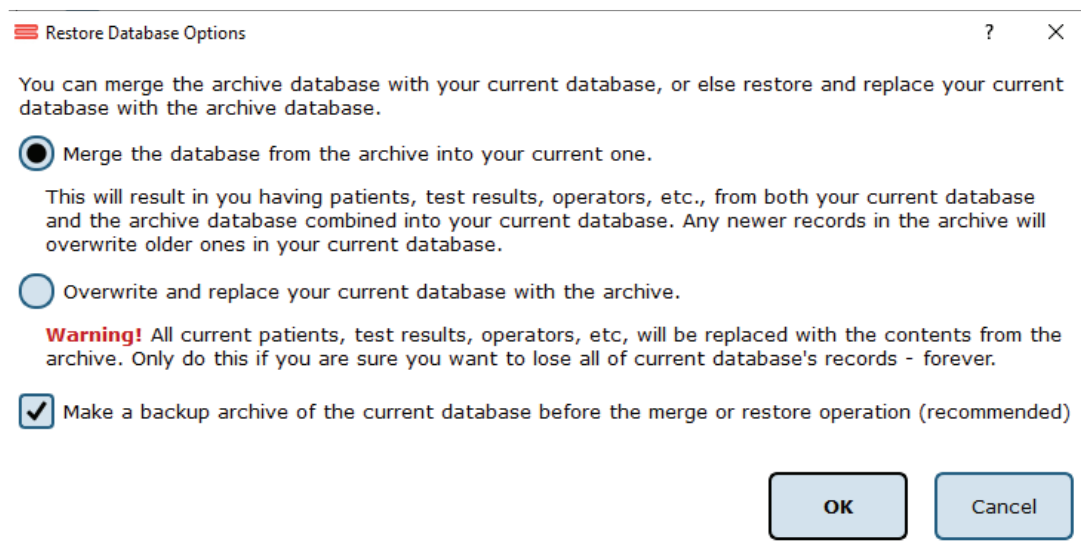

Figure 39: Merge/Archive Options.
3. The program should default to merging, not restoring, an archive. Even so, ensure that the Merge circle is filled in as seen in Figure 39.